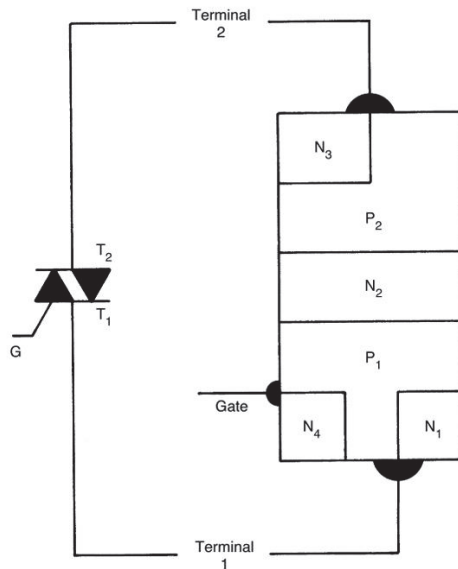

Figure 12.11 Junction diagram and schematic symbol of a triac.
Figure 12.11 shows the crystal structure, junction diagram, and schematic symbol of a **triac**. Note that the crystal structure of this device forms an $N_1P_1N_2P_2$ structure between T_1 and T_2 . The gate is commonly connected to the P_1 - N_4 junction. From T_2 to T_1 , the crystal structure is $N_3P_2N_2P_1$. The gate of this structure uses N_4 of the P_1 - N_4 junction. This shows that T_1 , T_2 , and the gate are in either an NPNP or a PNPN combination, depending on the voltage of T_1 and T_2 .
18. According to **Figure 12.11**, the crystal structure from T_1 to T_2 is _____.
19. According to **Figure 12.11**, the crystal structure from T_2 to T_1 is _____.